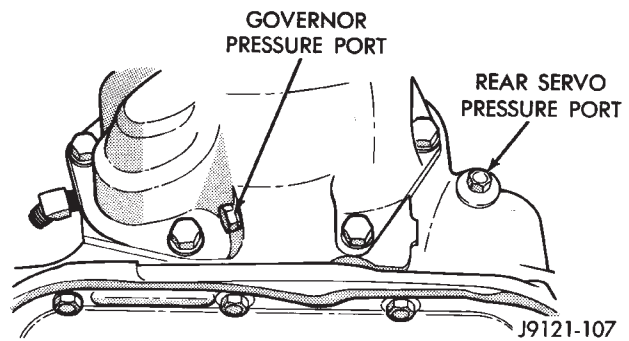
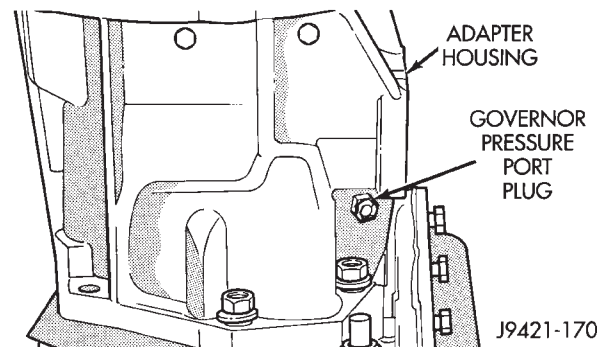

Fig. 5 Rear Servo And Governor Pressure Test Ports (4 x 2 Transmission)
Fig. 6 Governor Pressure Test Port (4 x 4 Transmission)
The rear servo pressure port is at the right rear of the transmission case (Fig. 5).
On 4 x 2 models, the governor pressure port is at the left side of case at the transmission rear (Fig. 5). On 4 x 4 transmissions, the test port is in the driver side of the adapter housing (Fig. 6).
- (1) Connect pressure test gauge to rear servo port (Fig. 5).
- (2) Start and run engine at 1600 rpm for test.
- (3) Move valve body selector lever four detents rearward from full forward position. This is Reverse range.
- (4) Move throttle lever all way forward then all the way rearward and note gauge readings.
- (5) Pressure should be 145 - 175 psi (1000-1207 kPa) with lever forward and increase to 230 - 280 psi (1586-1931 kPa) as lever is moved rearward.
- (1) Connect test gauge to governor pressure port (Figs. 5 and 6).
- (2) Move selector lever to D range.
- (3) Apply service brakes. Start and run engine at curb idle speed and note pressure. At idle and with wheels stopped, pressure should be zero to 1-1/2 psi maximum. If pressure exceeds this figure, governor valve or weights are sticking open.
- (4) Slowly increase engine speed and observe speedometer and pressure test gauge. Governor pressure should increase in proportion to vehicle speed (approximately 1 psi for every 1 mph shown on speedometer).
- (5) Governor pressure rise should be smooth and drop back to 0 to 1-1/2 psi when throttle is closed and wheels are stopped.